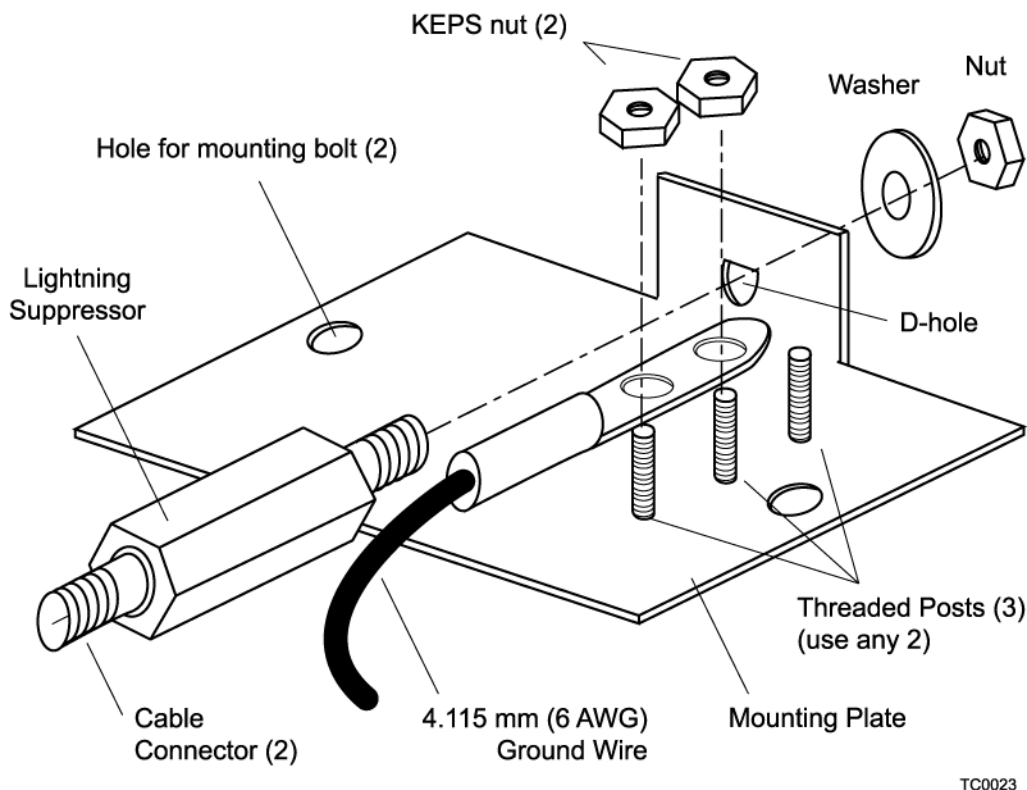

Figure C-6. Assembling the Lightning Suppressor
9. Assemble the lightning suppressor as shown in Figure C-6.